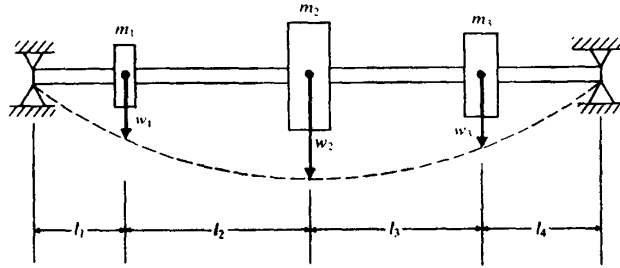

Fig. 1
3. Estimate the fundamental frequency of lateral vibration of a shaft carrying three rotor system as shown in Fig. 1 with  $m_1 = 20$  kg,  $m_2 = 50$  kg,  $m_3 =$